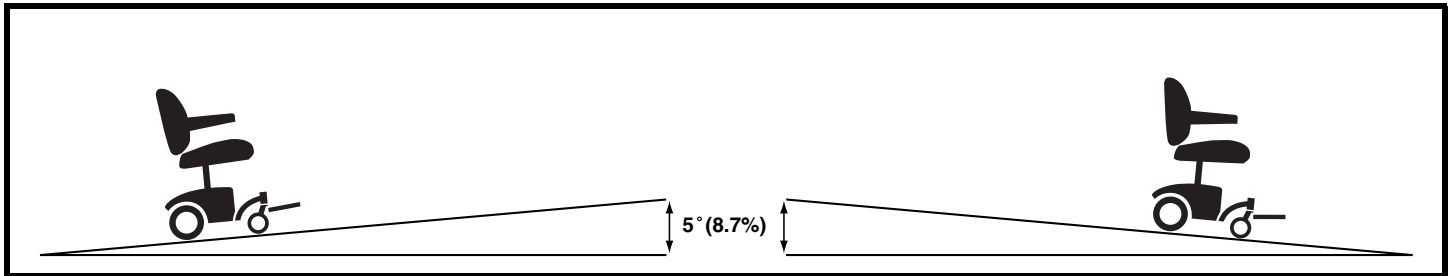

Figure 1. Recommended Maximum Incline Angles (Ascending and Descending)
**WARNING!** Even though your power chair is capable of climbing slopes greater than those illustrated in figure 1, do not, under any circumstances, exceed the incline guidelines or any other specifications presented in this manual. Doing so could cause instability in your power chair.
Pride recommends that the maximum slope of an incline you attempt to safely ascend or descend on your power chair does not exceed 5° (8.7%). See figure 1.